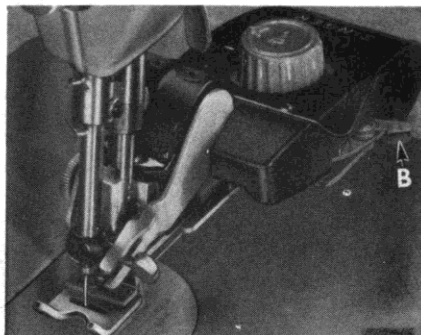

Fig. 10. To Adjust Zigzagger for Straight Stitching
Arrowhead Stitch Pattern 161003  produces a design which is ideal for ornamental purposes. The size of Arrowhead is determined by the bight setting and texture of material. Stitch setting should be short (approximately No. 30) for a solid effect. For any desired spacing between Arrowheads, pull lever **B**, **Fig. 10**, **page 10** forward for straight stitching and count number of stitches for a given space. When desired spacing is attained, push lever **B** back for zigzag stitching. Arrowhead is most distinct when bight is set at **W** and stitch regulator at No. 30.
2. Pull lever **B**, **Fig. 10** toward you. Plain sewing can then be done.